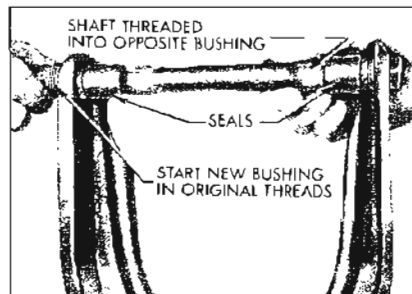

Figure 7-19—Upper Control Arm Bushing Replacement
2. Start second bushing into the upper control arm with shaft threaded into the opposite bushing. See Figure 7-19.
2. Rear Springs. On a car having service miles, the rear spring trim dimensions should be as shown in Figure 7-19 chart.